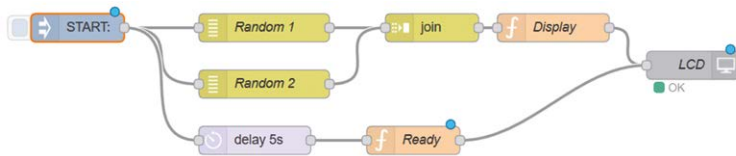

Figure 6.14 Flow program of the project
Node-RED flow program: Figure 6.14 shows the flow program which consists of 8 nodes: an **inject** node to start generating two random numbers, 2 **random** nodes to generate two random numbers between 1 and 6, a **join** node to join the two generated numbers, a **function** node to format the numbers for displaying on the LCD, a **delay** node to generate 5 seconds of delay so that the message Ready can be displayed after 5 seconds, and a **function** node which actually displays the message **Ready**.
- Join all the nodes as shown in Figure 6.14 and click **Deploy**.